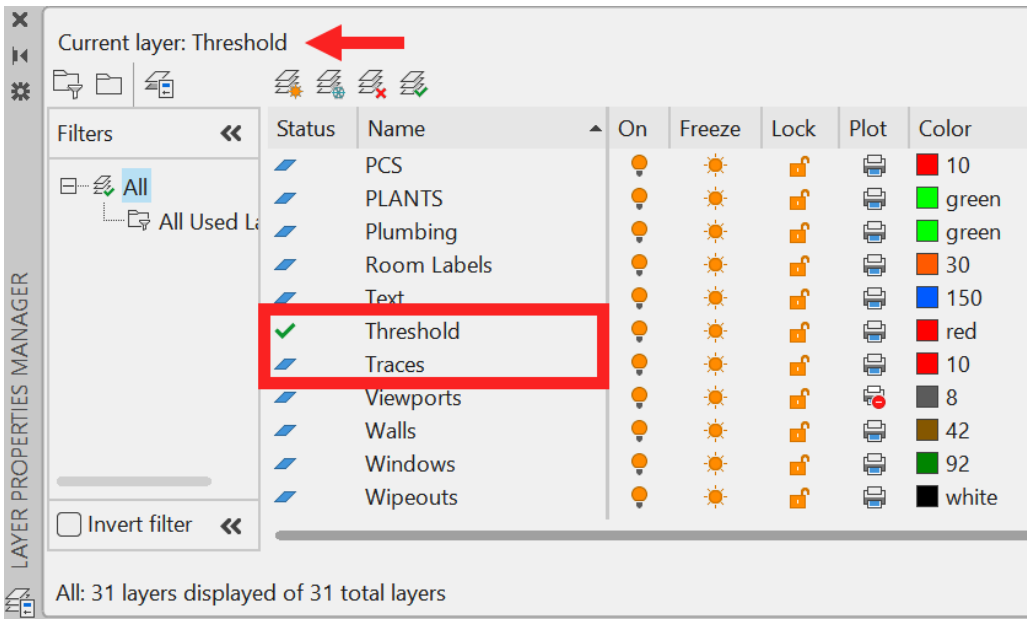

Figure 15.31: The new layers in the Layer Properties Manager palette
3. The **Layer Properties Manager** palette will appear on the screen, as shown in *Figure 15.31*. Notice that the layers **Traces** and **Threshold** are now available in the DWG file.
The **Traces** layer was added when the `New Office Layout.dwg` file was open in AutoCAD Web, and the **Threshold** layer was added in the AutoCAD mobile application. **Threshold** is the current drafting layer (arrowed in *Figure 15.31*), the last layer created in the AutoCAD mobile application.